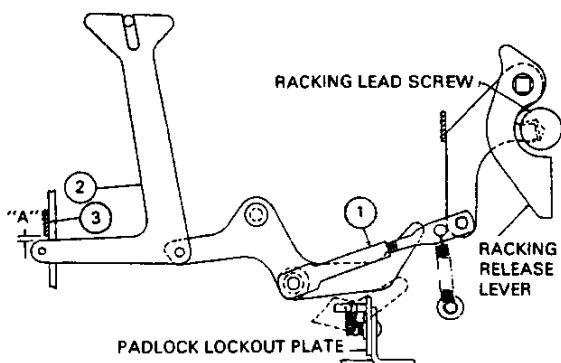

Fig. 8 — Racking Mechanism
5.11 RACKING MECHANISM (See Figure 8)